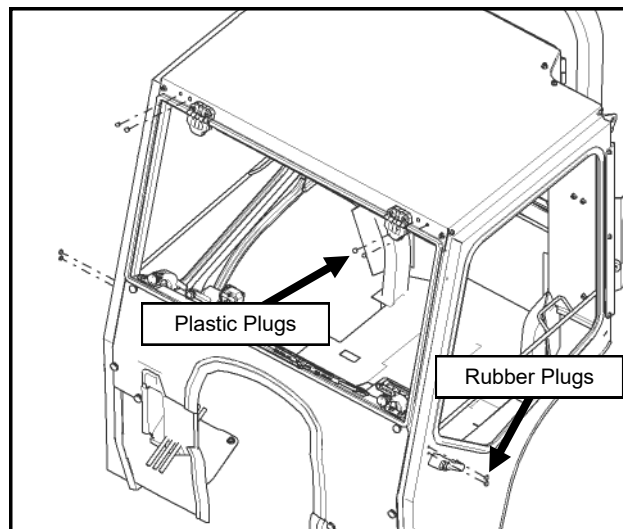

Fig. 23.1 (Install Plugs)
23.1 If installing accessories, please do so now. If not, use the supplied plugs to cover any exposed holes. See Figure 23.1.